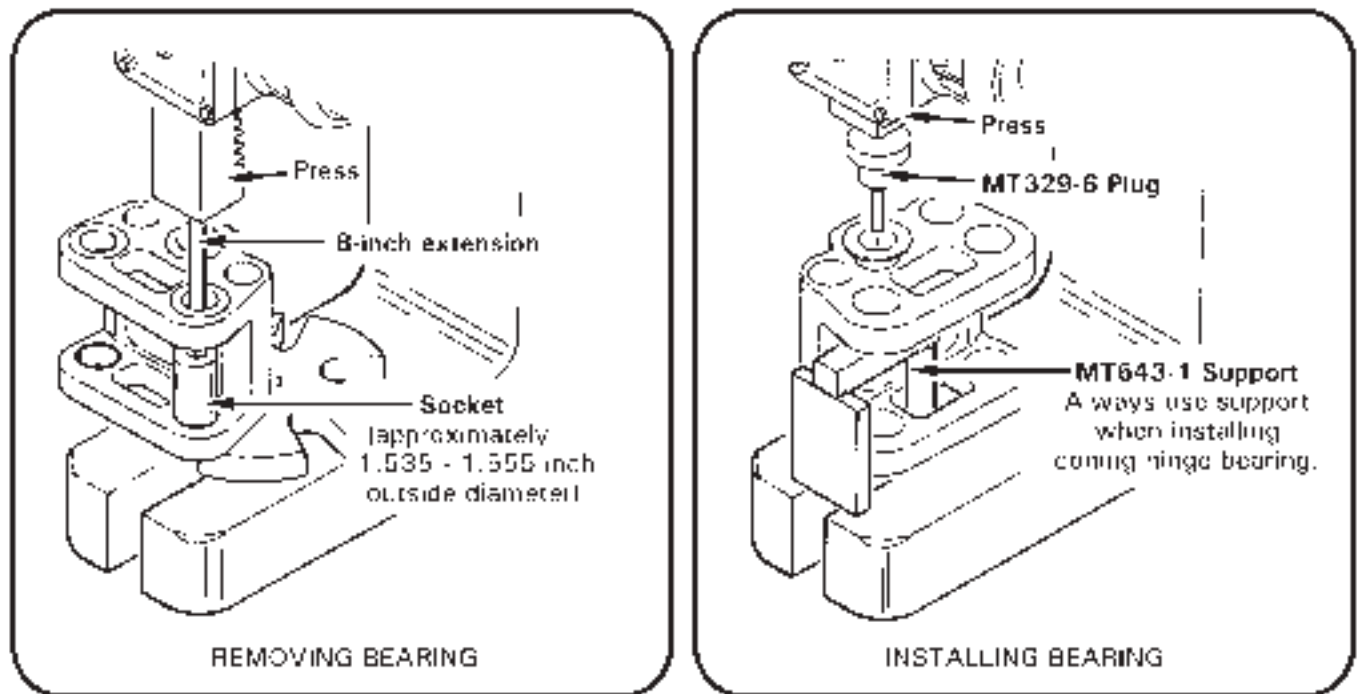

FIGURE 9-9 MAIN ROTOR HUB BEARING REPLACEMENT
1. Refer to Figure 9-9. Verify tooling surfaces are smooth to avoid damaging hub and bearings. Press bearing(s) from hub using a socket (approximately 1.535-1.555 inch outside diameter) and an 8-inch extension.